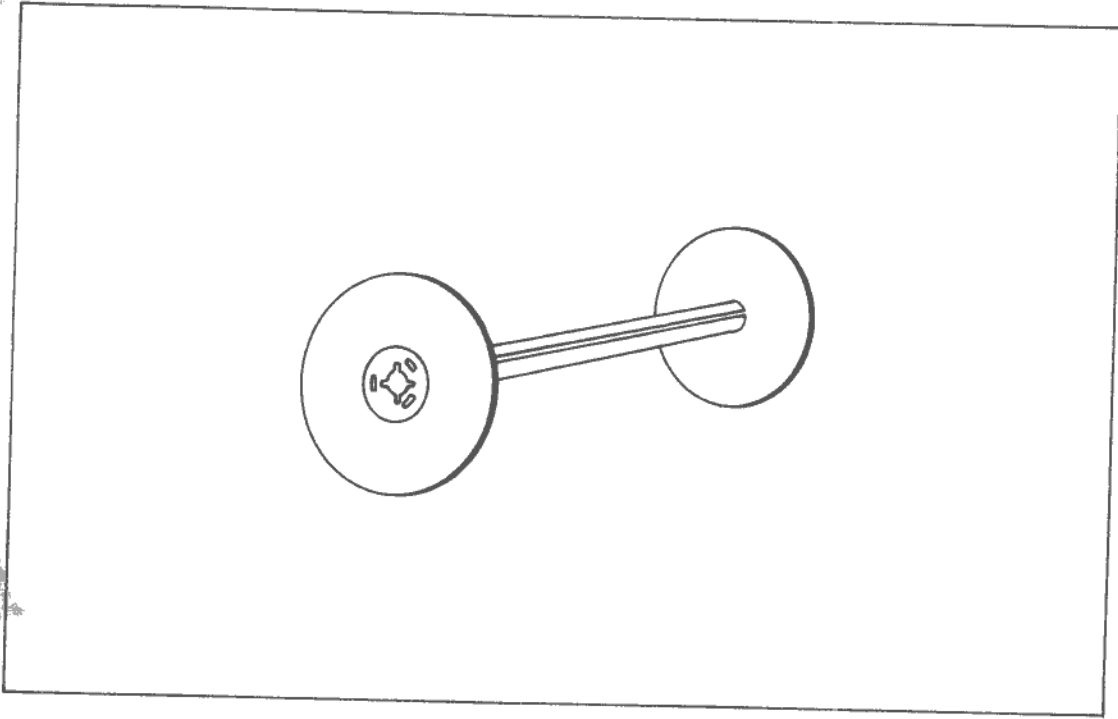

Figure 3-30. Audit Trail Spool
10. Pull the spool release latch out of position and remove the audit trail spool. Pull out the removable right-hand disk (note that the fixed left-hand disk has a metal flange over it to prevent its removal) and slip the audit trail roll off the spool (refer to figure 3-30).